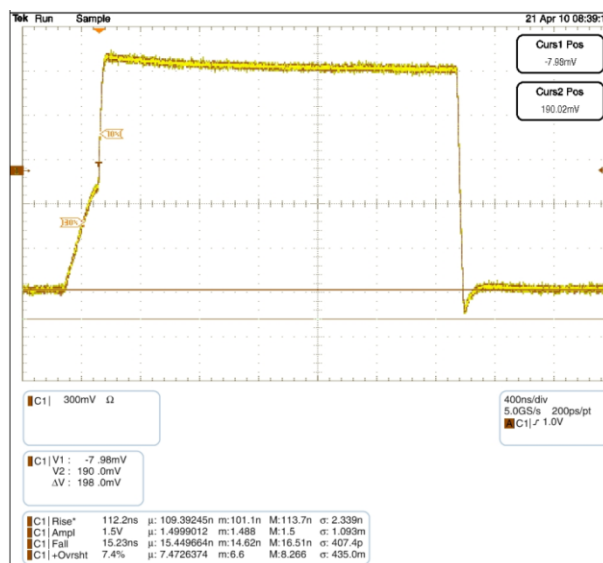

Figure 5. FXMA2102 Waveform C: 600 pF, R_{PU}: 2.2 K
resistive short between both ports until either of the port's V_{CC}/2 thresholds are reached. After the RC time constant has reached the V_{CC}/2 threshold of either port, the port's edge detector triggers both dynamic drivers to drive their respective ports in the LOW-to-HIGH (LH) direction, accelerating the rising edge. The resulting rise time resembles the scope shot in Figure 5. Effectively, two distinct slew rates appear in rise time. The first slew rate (slower) is the RC time constant of the bus. The second slew rate (much faster) is the dynamic driver accelerating the edge.
The FXMA2102 dynamic drivers have enough current sourcing capability to drive a 400 pF capacitive bus. This is beneficial for instances when an I²C buffer / repeater is required. The I²C specification stipulates a maximum bus capacitance of 400 pF. If an I²C segment exceeds 400 pF, an I²C buffer / repeater is required to split the segment into two segments, each of which is less than 400 pF. Figure 5 is a scope shot of an FXMA2102 driving a lumped load of 600 pF. Notice the (30% - 70%) rise time is only 112 ns (R_{PU} = 2.2 K). This is well below the maximum edge rate of 300 ns. Not only does the FXMA2102 drive 400 pF, but it also provides excellent headroom below the I²C specification maximum edge rate of 300 ns.